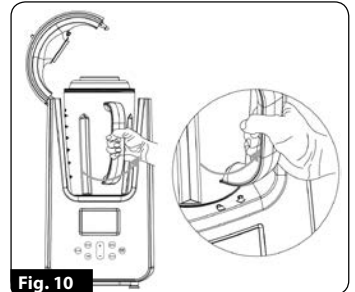

Fig. 10
- The blender jug is removed from the blender housing in the reverse order of assembly: lift the swivel blender top ②, twist the blender jug to align the jug handle with the open padlock mark, and remove the blender jug from the blender housing (Fig. 10). Remove the blender jug lid and the blade rotor.